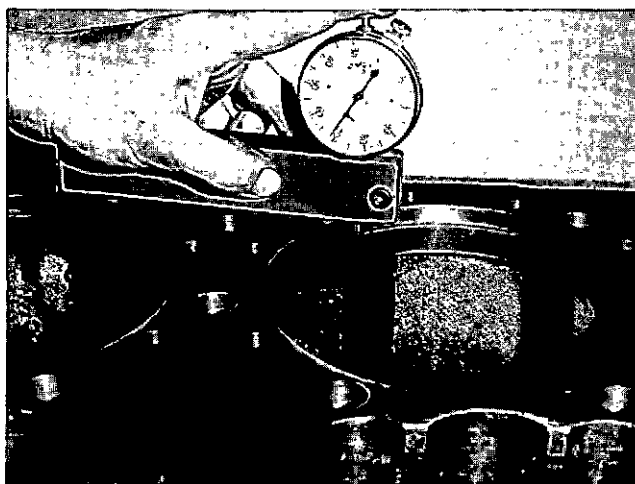

Fig. 14-1-11, V40124. Check liner counterbore depth
a. Check upper liner counterbore diameter at four equidistant points, Fig. 14-1-11. Counterbore dimensions of a new cylinder block are listed in Table 14-1-2.